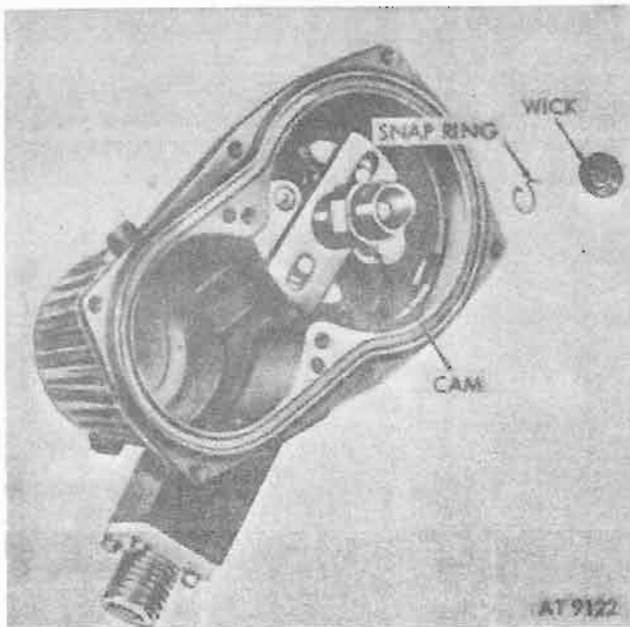

Figure 6-2. Cam assembly.
- a. Remove felt wick using long-nosed pliers or sharp pointed instrument. Remove snapping (spring) securing cam to shaft (fig. 6-2).
(3) Inspect gasket and gasket seats. Discard if rough or corroded.
f. Cam (fig. 6-2). Clean cam in mineral spirits paint thinner or drycleaning solvent. Inspect cam lobes and weight slots for wear. Discard cam if lobes are grooved or if sides of weight slots are rough.